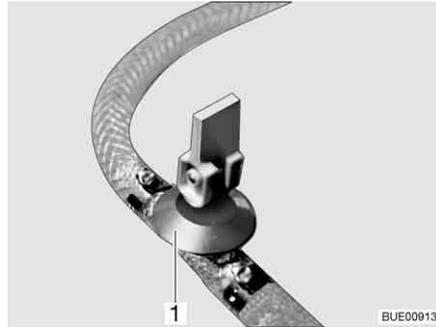
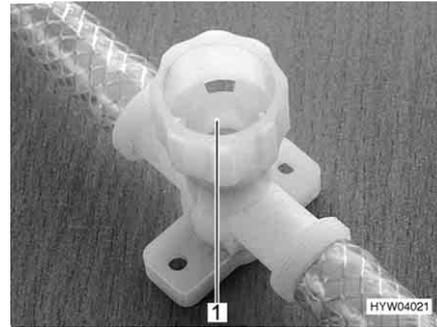

Fig. 227 Drain cock (with rocking lever)
Fig. 228 Drain cock (with twist cap)
- Close all drain cocks. To do this, position the drain cock's rocking lever (Fig. 227, 1) horizontally or turn the drain cock's cap (Fig. 228, 1) in a clockwise direction.